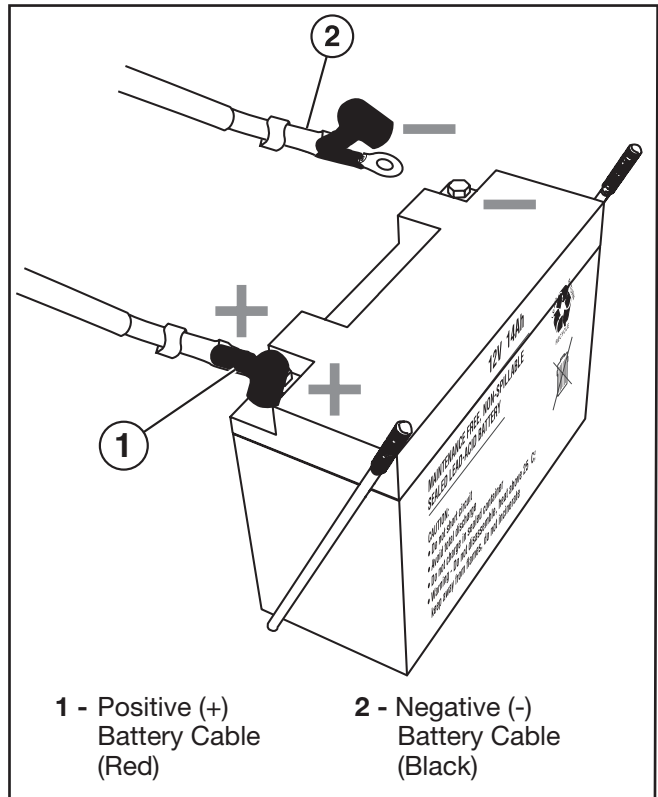

Figure 8 – Attaching the Negative (-) Battery Cable (Black) to the Negative (-) Battery Terminal
4. Pull back the black boot and securely attach the negative (-) battery cable (black boot) to the negative (-) battery terminal as shown in *Figure 8*. Replace the black boot so it protects the cable lug and battery terminal.